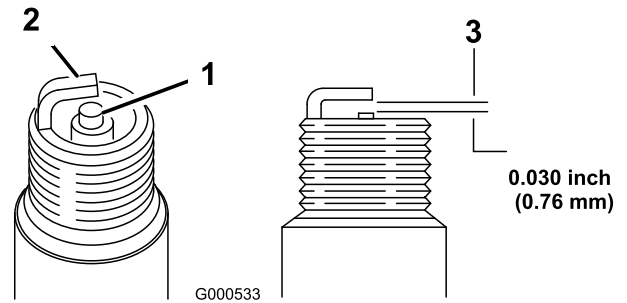

Figure 34
1. Inspect the spark plug (Figure 34).
2. Check the gap between the center and side electrodes (Figure 34).